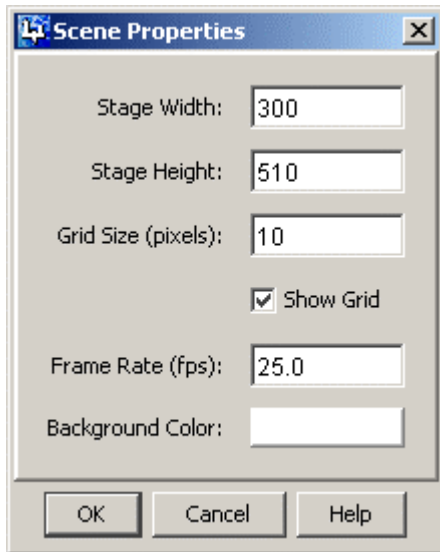

Figure 7. *Scene properties* dialog
In the *Scene properties* dialog enter the new *Stage* width (300) and height (510) values, and then press the OK button (Figure 7).